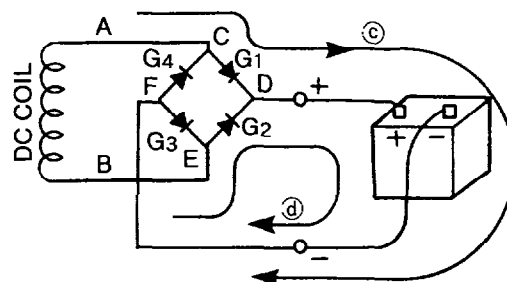

Fig. 5-8-2
Fig. 5-8-2 shows the DC output circuit of the generator. DC voltage is generated in the DC coil. When the voltage in **A** is higher than that in **B**, the current ③ flows in the direction shown in the figure, while no current flows between **CF** and **DE** because the current is cut off by the diodes **G4** and **G2**. On the contrary, when the voltage in **B** is higher than that in **A**, the current ④ flows in the direction as shown in the figure. No current flows between **CD** and **EF** because the current is cut off by the diodes **G1** and **G3**.